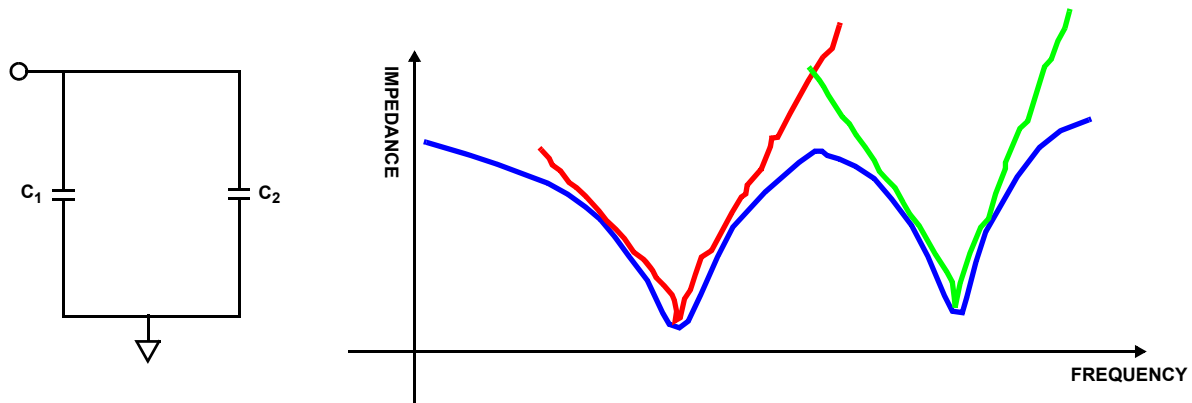

FIGURE 21. FREQUENCY RESPONSE OF TWO SCALED CAPACITORS IN PARALLEL (FOR REFERENCE)
Many designers like to add a series resistance to bypass capacitors to lower the quality factor (Q) of the bypass network. The effect is graphed in Figures 21 and 22 using a simple, 2-capacitor bypass network.